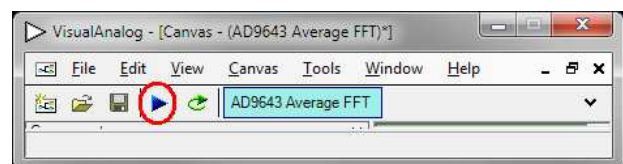

Figure 15. Run Button (Encircled in Red) in VisualAnalog Toolbar, Collapsed Display
8. Click the **Run** button in the **VisualAnalog** toolbar (see Figure 15).